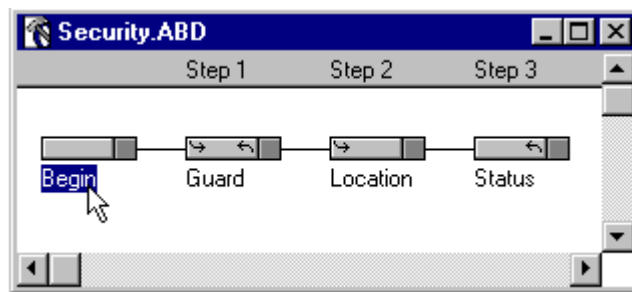
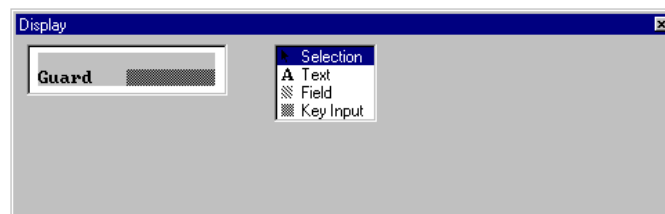

Figure 3-60 Security Application - “Begin” Handler
Figure 3-61 “Begin” Handler Display
52. Click the “Begin” Handler (Figure 3-60) to select it. The generated display is shown in the **Display** window (Figure 3-61). The generated display asks for a guard entry on the second line.